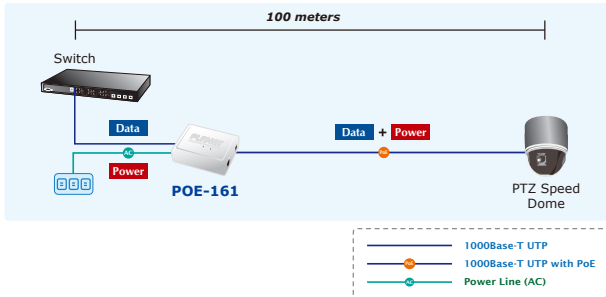

Figure 3: Connection to IEEE 802.3at device
4. Connect with IEEE 802.3at devices, due to the capability of IEEE 802.3at Power over Ethernet pre-standard, the POE-161 can directly connect with any IEEE 802.3at end-nodes such as PTZ (Pan, Tilt & Zoom) network cameras, PTZ Speed Dome, color touch- screen Voice over IP (VoIP) telephones, multi- channel wireless LAN access points where support IEEE 802.3af In-line Power over Ethernet port. The screen in Figure 3 appears.